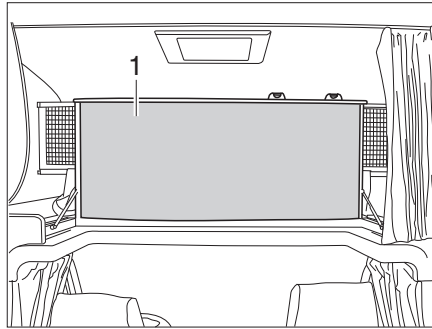

Fig. 150 Overcab bed, folded upwards
- Fold the front of the overcab bed (Fig. 150,1) upwards. The overcab bed is kept in the upper position by gas-pressure springs.